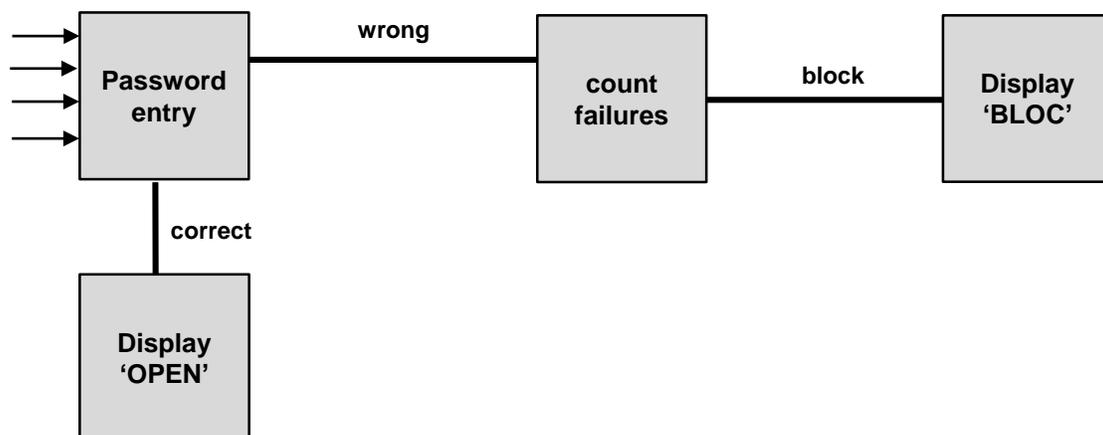
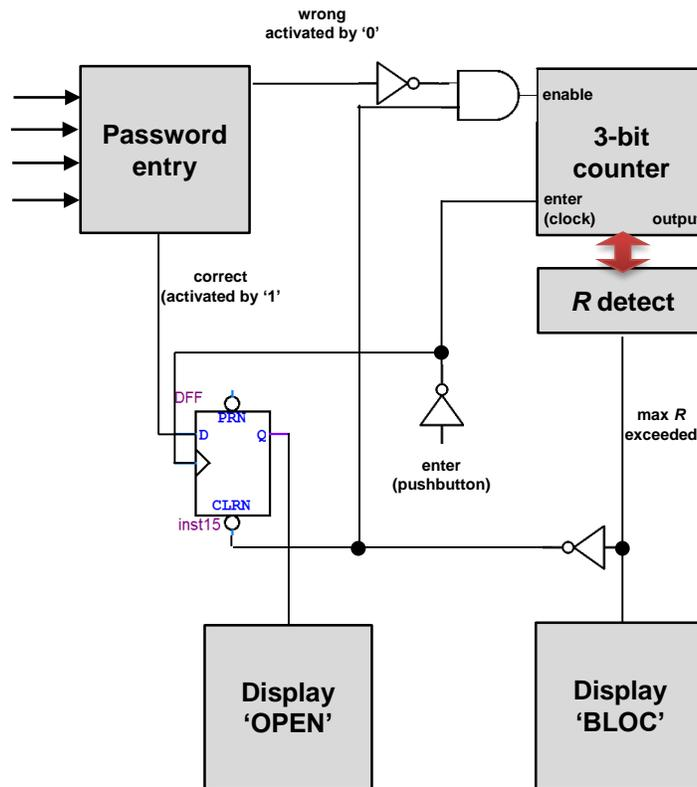

Figure 1. Top level schematic for a code lock
Figure 2. Schematic for a code lock
1. Design blocks present in Fig. 1 / Fig. 2
1. Connect blocks into the circuit according to Fig. 2